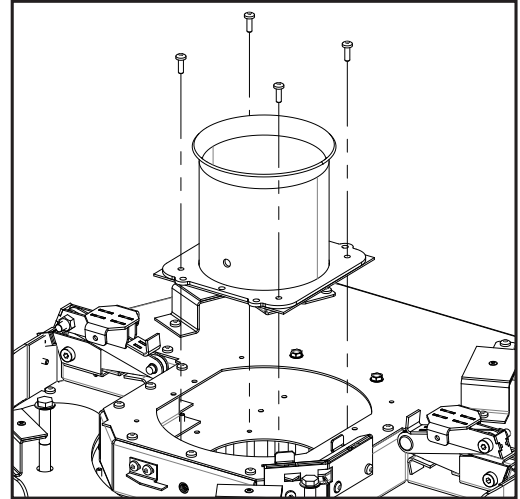

Figure 65: Exhaust Spigot Removal
8. Remove the exhaust spigot from the top of the unit by removing the four (4) T20 screws (see Figure 65). Be delicate with the gasket, you will be reusing this.